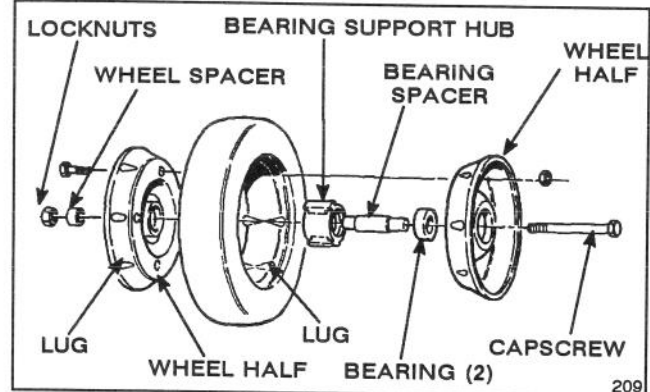

Figure 31
1. Stop engine and remove capscrew, wheel spacer, and locknut mounting wheel to pivot arm (Fig. 31).
2. Separate wheel halves from tire by removing (4) flange capscrews and locknuts (Fig. 31).
1. Position tire onto (1) wheel half aligning lugs on each (Fig. 31).